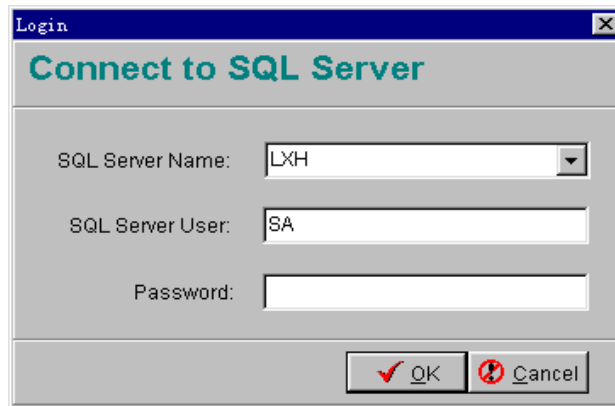

Figure 1-10
- 6) Click **Create Datasource**. Figure 1-10 appears. Input **SQL Server Name**, **SQL Server User** and **Password**. If the software is only used in one computer, input this computer's name. If it is installed in a server, input the server's name. Click **OK** button to return to installing window.